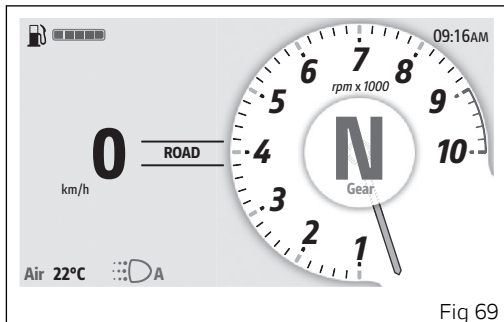

Fig 69
If the "Focus mode" has been activated via the "Display" function in the "Setting menu" (see page 139) and buttons (1), (2), or (3) are not pressed for 15 seconds, the page with only the following main information is displayed (Fig 69):